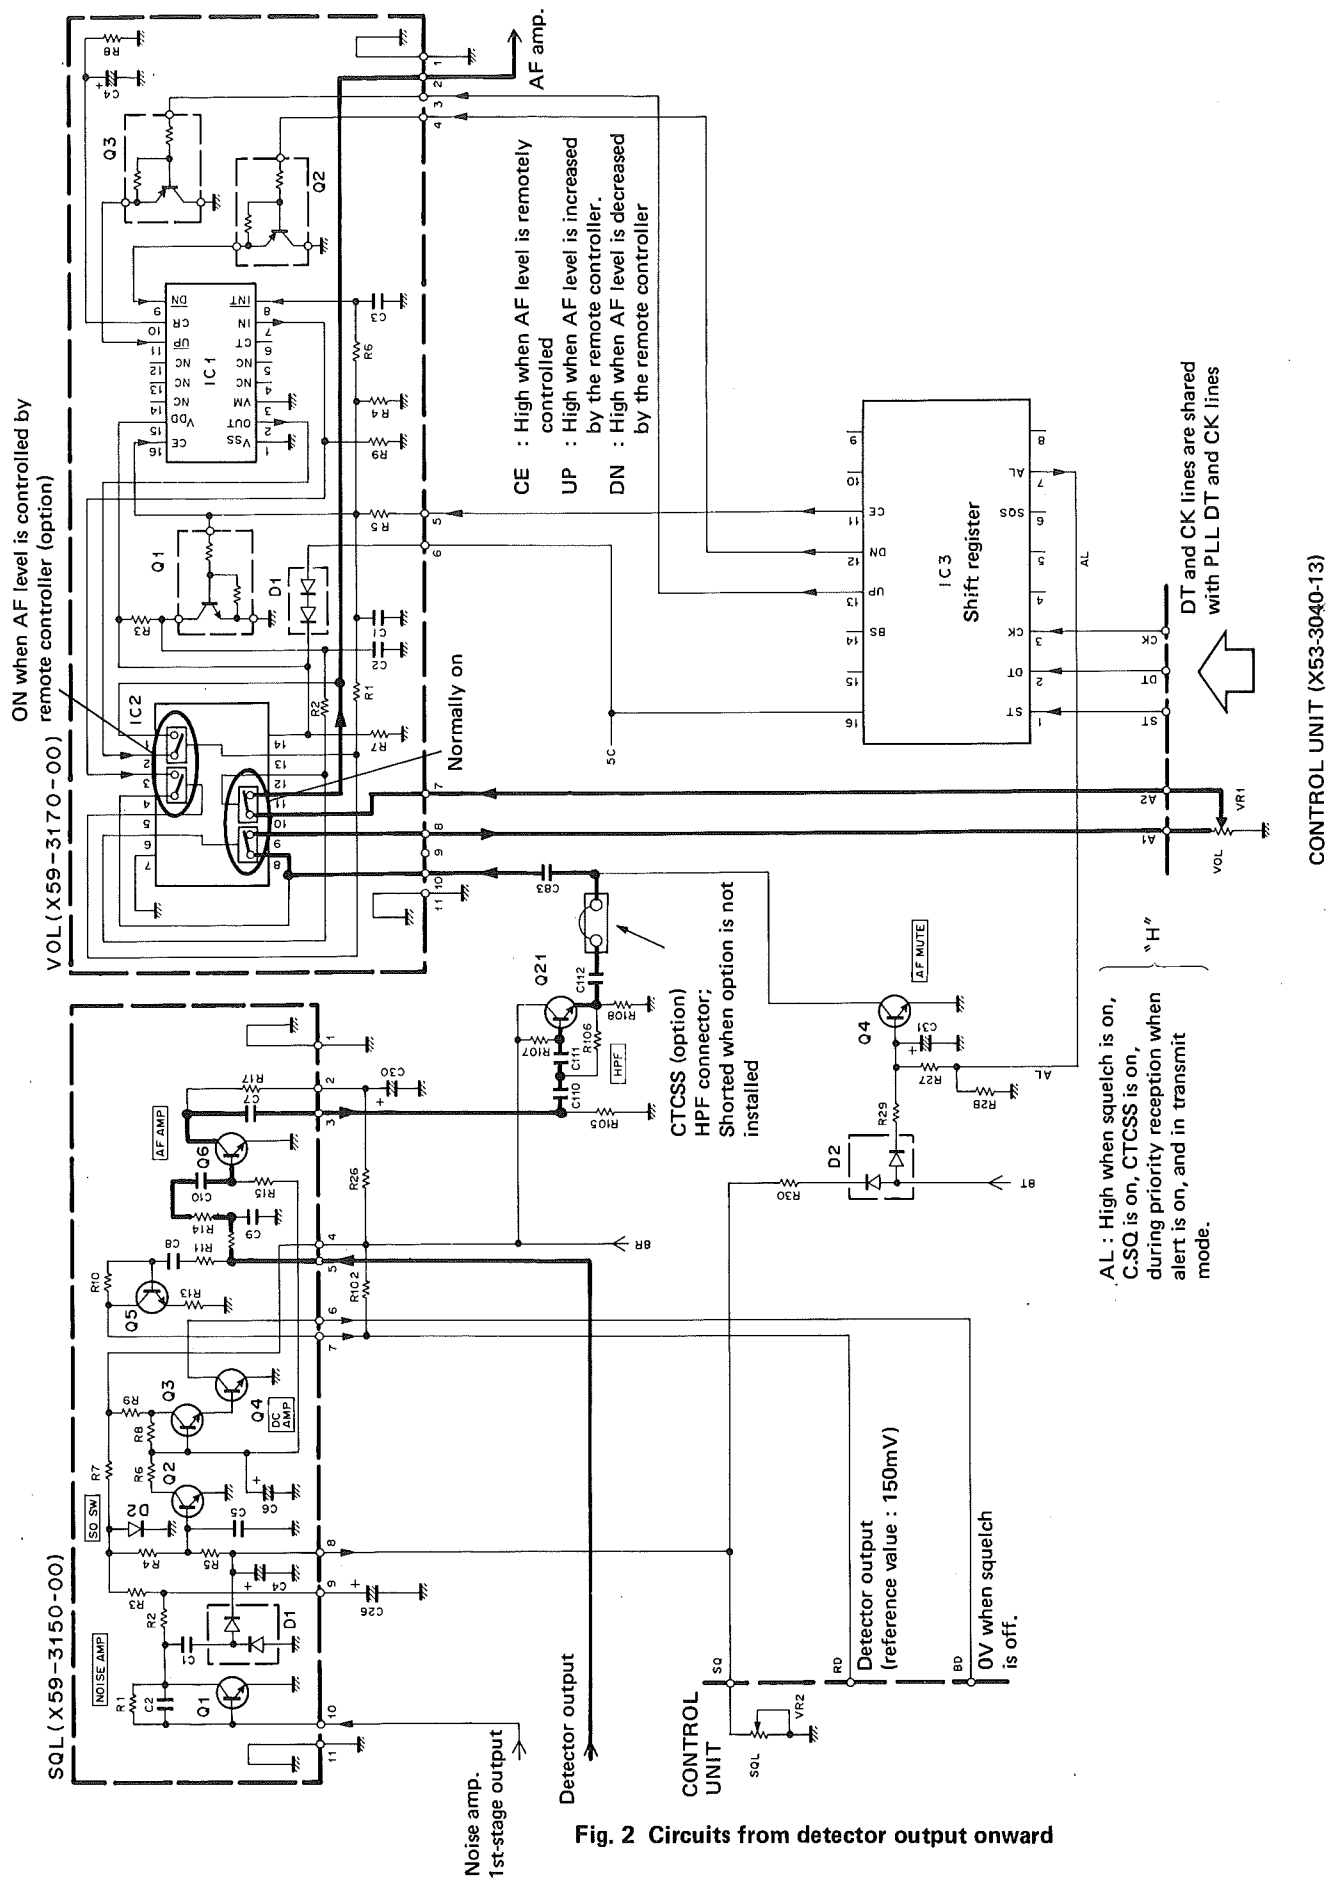

Fig. 2 Circuits from detector output onward
The first IF signal is amplified by Q3 : 2SC2714(Y) and fed to a special narrow-FM IC (TA7761F). Here the signal is mixed with the 30.370MHz frequency from the second local oscillator to produce the 455kHz second IF signal. This signal is sharpened by passing it through a six-element ceramic filter (CFW455F). The signal is then amplified by a five-stage limiting amplifier contained in IC1. This is followed by quadrature detection which is also performed by IC1. Undesirable high-frequency components are removed from the detected signal by an active low-pass filter. The signal then passes through the audio volume control, then is amplified by the audio power amplifier (IC4), and applied to the speaker. The circuit configuration from detection onward is shown in **Fig. 2**.